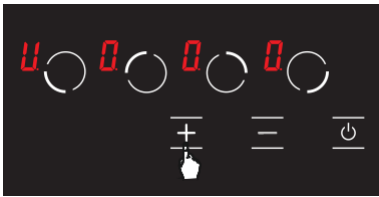

Figure 10
3. Then, press the **+** key once. The **H** icon shall be displayed by the relevant hob with this touch. (see Fig. 10) Thus, the keep warm shall be activated.